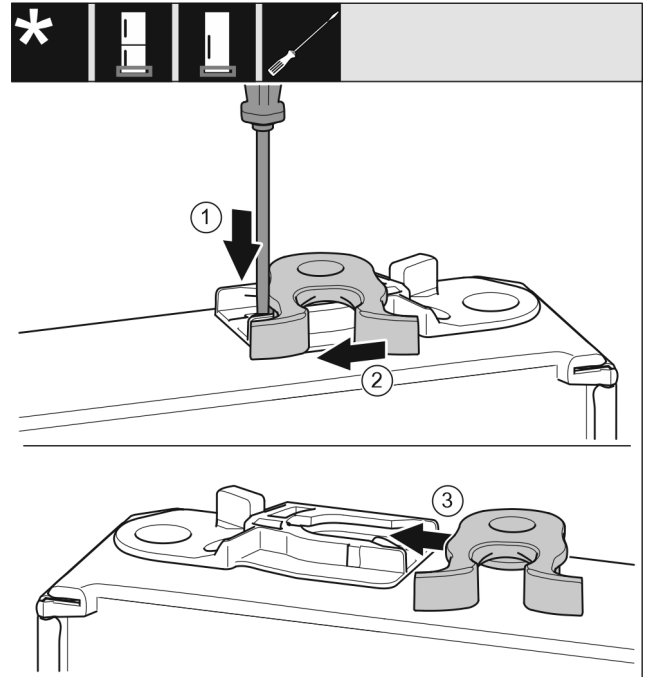

Fig. 24 \*
- ▶ Use a slotted screwdriver to push the tab Fig. 24 (1) downwards.\*
- ▶ Pull the closing hook Fig. 24 (2) out of the guide.\*
- ▶ Insert the closing hook Fig. 24 (3) into the guide on the other side.\*